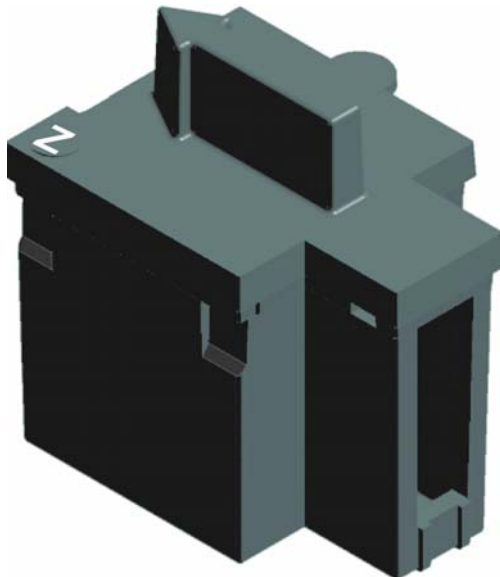

Figure 4 Cell adapter Z
2. Insert the adapter for measurements with the round cuvette/sample cell (11 mm) and/or 10 mm square cuvette/sample cell so the arrow on top of the adapter points to the left (Figure 4) and the orientation tab fits the groove in the compartment opening.